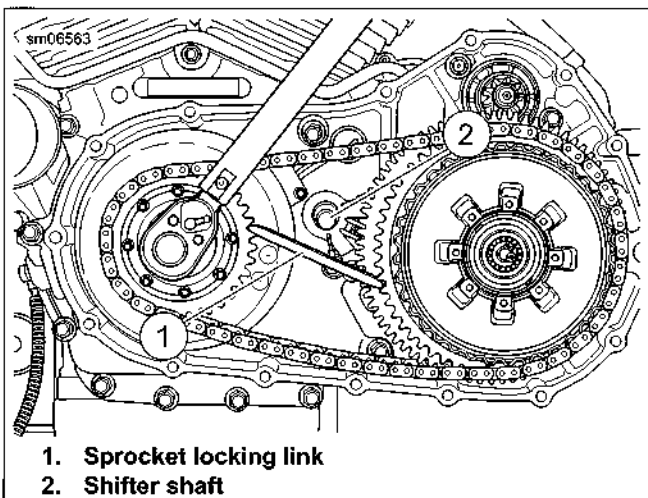

Figure 5-15. Tighten Engine Sprocket Fastener (typical)
See Figure 5-15. Do not position the sprocket locking link too close to the shifter shaft (2). If the sprocket locking link contacts the shifter shaft while tightening the engine sprocket nut, the shifter shaft and/or the engine crankcase may be damaged.
4. See Figure 5-15. Install the sprocket locking link.